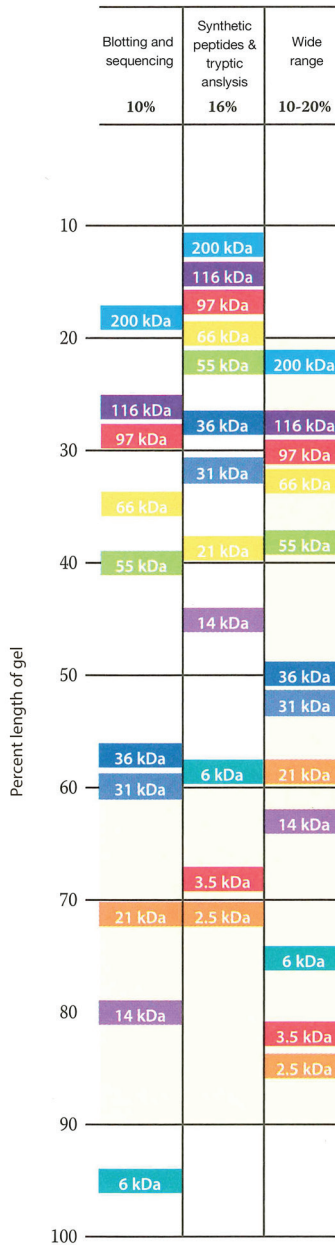

Figure 17. Novex Tricine gel migration chart. For optimal resolution, protein bands should migrate within the shaded areas.
- **Increased resolution of proteins** with molecular weights as low as 2 kDa (Figure 17)